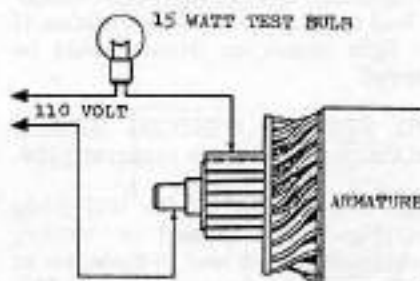

Fig. 111—When checking insulation each commutator segment must be checked separately. Refer to paragraph 205.
**206. ARMATURE INSULATION TEST.** Armature insulation may be tested by using a 110 volt, 15 watt AC current test light connected as shown in Fig. 111. Touch each commutator segment in turn with test light lead. If test light comes on at any segment, windings are shorted and must be repaired or renewed.